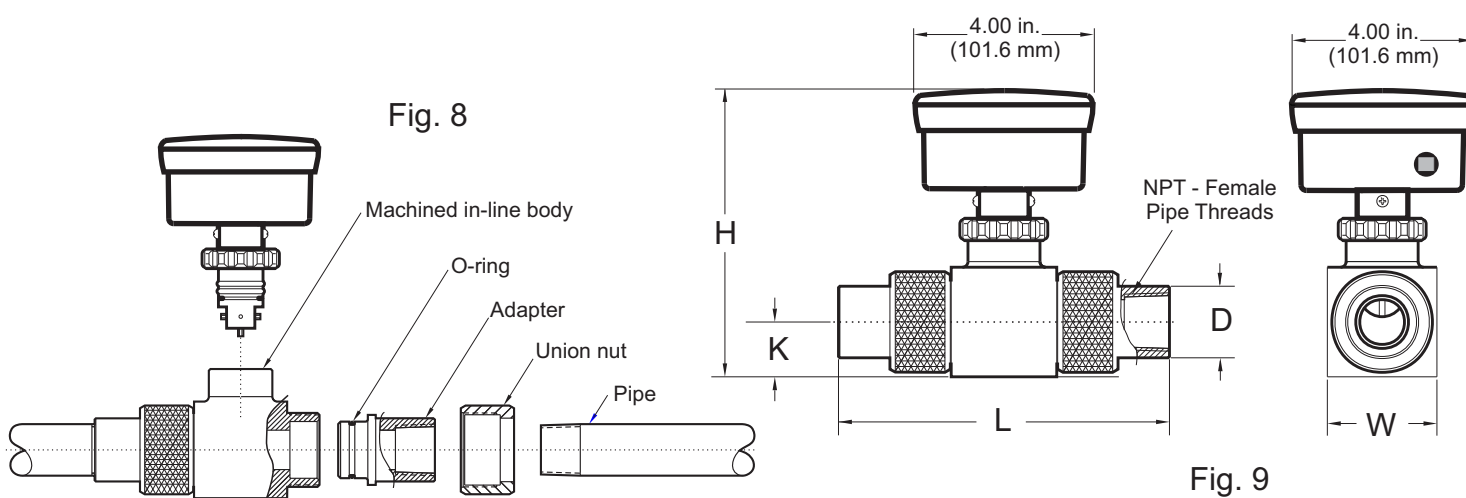

**Fig. 7**
- The meter can be mounted on horizontal or vertical runs of pipe (see figure 3 and 4). Mounting at the vertical (twelve o'clock) position on horizontal pipe is recommended (see figure 7). Mounting anywhere around the diameter of vertical pipe is acceptable, however, the pipe must be completely full of water at all times. Back pressure is essential on downward flows.
- Be sure two O-rings are located on the sensor body (see figure 7). The O-rings have been lubricated at the factory with silicone oil.